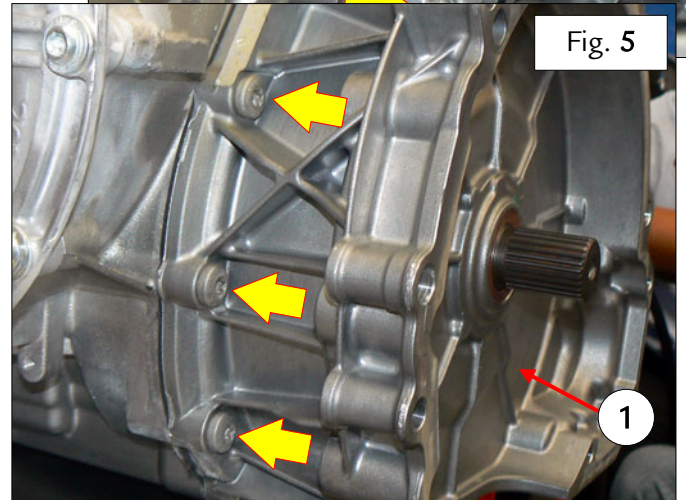

Fig. 5
- On the right hand side of the DCT gearbox, undo and remove the indicated nuts – Fig. 5.